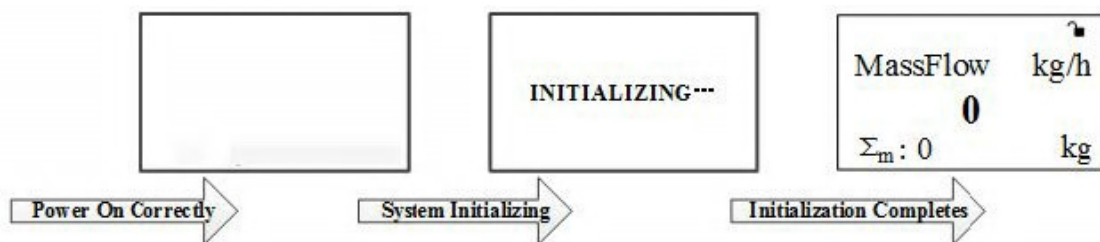

Figure 5-4 Boot display
5.2.2.1 While powering on, the LCD will display the Walsn Logo and start to perform initialization operations and the status indicator light will flash. When booting and initialization is complete the main display screen will be displayed. This sequence is illustrated in Figure 5-4.